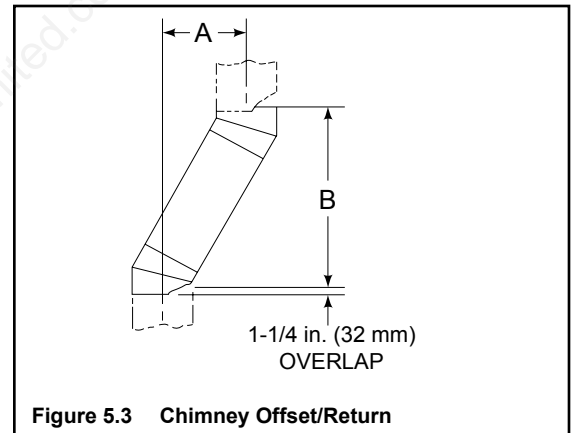

Figure 5.3 Chimney Offset/Return
- Measure how far the chimney needs to be shifted to enable it to avoid the overhead obstacle. See Figure 5.3. Use dimension “A” to determine chimney section required to achieve the needed shift.
- ➔ **Example:** Your “A” dimension from Figure 5.3 is 14 1/2 in. (368 mm). Using Table 5.2 the dimension closest to, but not less than 14 1/2 in. (368 mm) is 15 3/4 in. (400 mm) using a 30° offset/return. It is then determined from the table that you would need 36 5/8 in. (930 mm) (Dimension “B”) between the offset and return. The chimney components that best fit your application are two SL412s.